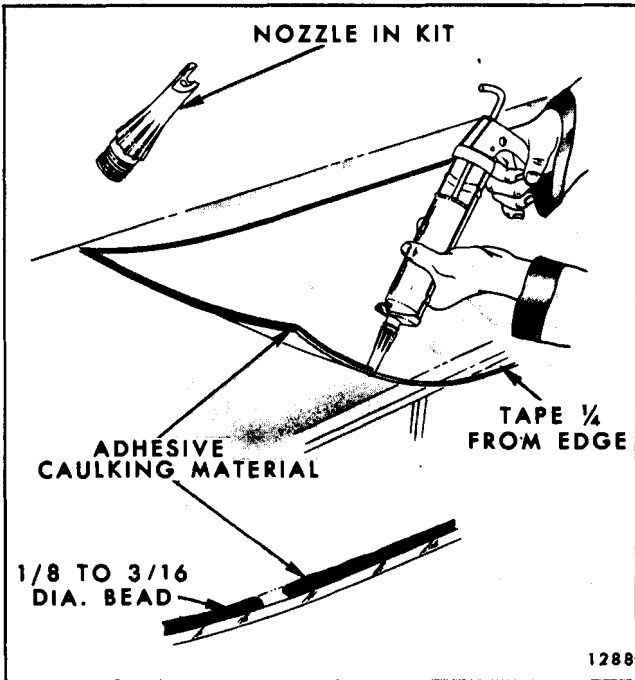

Fig. 4-4-Adhesive Material Application-Short Method
7. Apply smooth continuous bead of adhesive caulking material around entire inside edge of glass. Material should be $1/8''$ to $3/16''$ in diameter (Fig. 4-4).